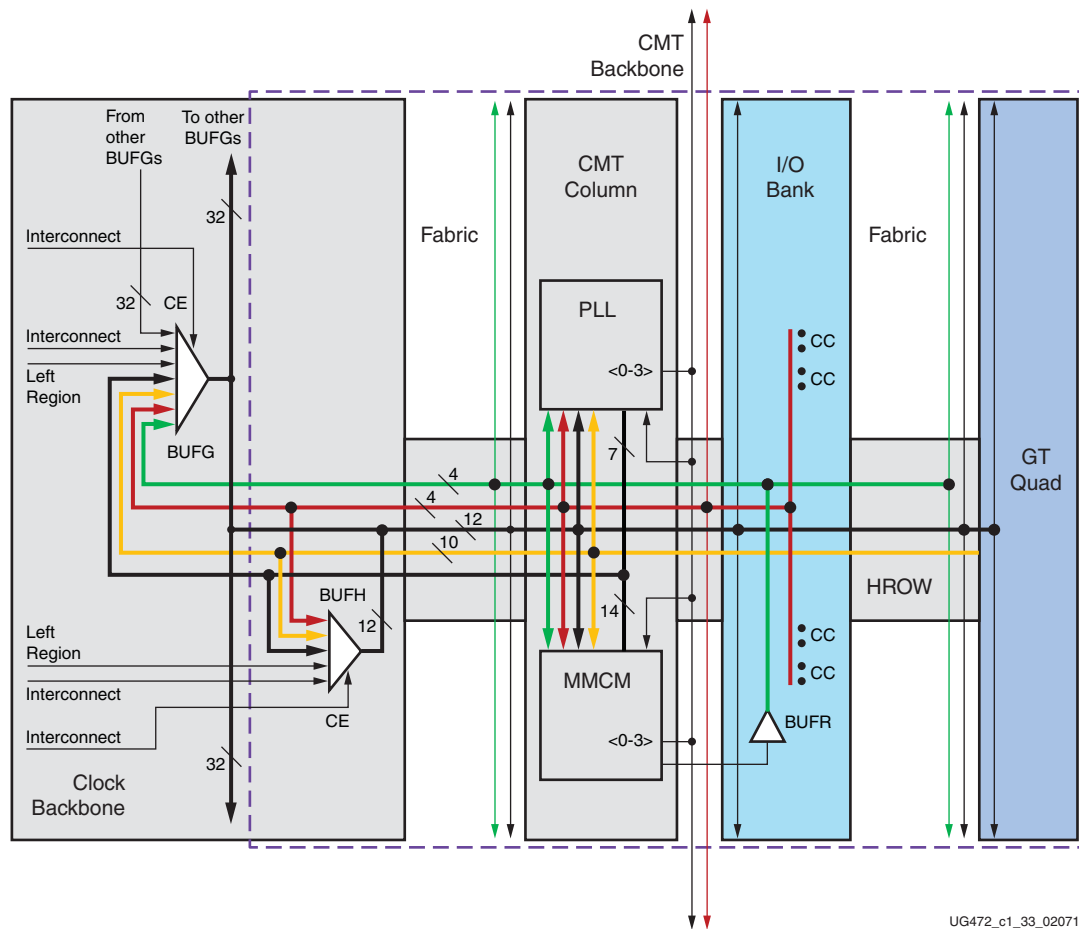

Figure 1-4: BUFG/BUFH/CMT Clock Region Detail
Figure 1-4 shows a more detailed diagram of the global BUFG and regional BUFH/CMT/CC pin connectivity as well as the number of resources available in a region (a right side region is shown here).
Any of the four clock-capable input pins can drive the PLL/MMCM in the CMT and the BUFH. The BUFG is shown as present in the region, but can be located physically somewhere else in the clock backbone. BUFG and BUFH share 12 routing tracks in the HROW and can drive all clocking points in the region. BUFGs can also drive BUFHs (not shown in Figure 1-4). This allows for individual clock enables (CE) on an otherwise global clock distribution. A GT quad has ten dedicated tracks to drive the CMT and clock buffers in the clock backbone. The BUFRs located in the I/O bank have four tracks driving clocking points in the logic, CMT, and BUFG. CMTs can, with limitations, drive other CMTs in the adjacent regions using the CMT backbone. Similarly, clock-capable pins can drive, with the same limitations, CMTs in adjacent regions. Clock-capable pins can drive BUFGs anywhere in the same top/bottom side of the device. There are four tracks in the CMT backbone to support connectivity between vertical regions.